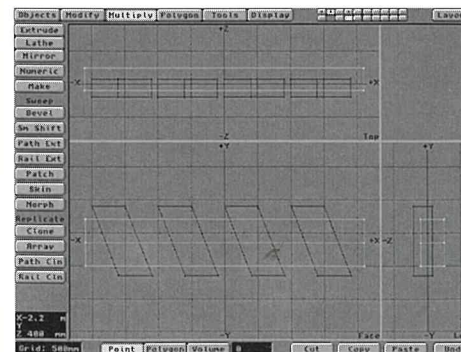

Figure 2
- Now, make the white diagonal lines that go across the clapper part of the object. With the clapperboards in a background layer, draw out a box in a new layer that intersects on the Z and is taller on the Y. Select the top points of the box and drag to the left to put a slant in the box. Clone this three times (Multiply menu) with an offset of one meter on the X (Figure 2). Give a surface name to the original object of "Black."